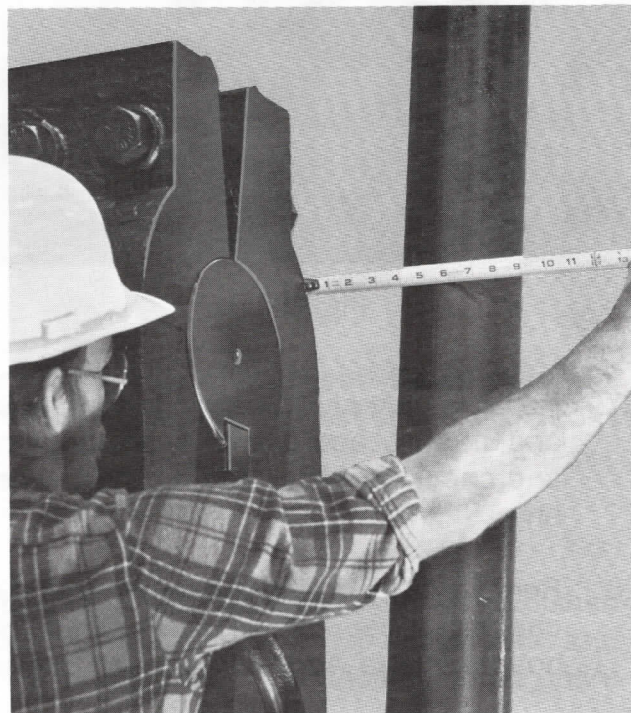

Fig. 19
24. Check clearance dimension between pitman pipe and crank face on each side of unit and adjust saddle bearing set screws to equalize, Fig. 19. Do not change this adjustment to align horsehead over well.